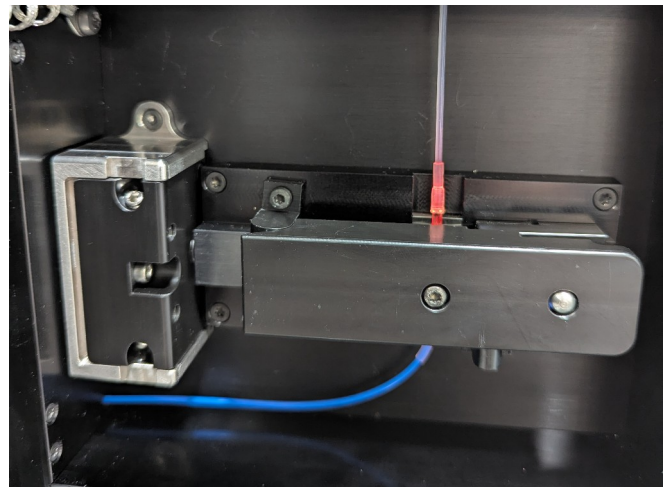

Figure 1. Ensure a Flow Cell is installed and the Reflector Arm is fully closed.
1. Ensure that a Flow Cell is properly installed on the instrument and that the Reflector Arm is fully closed (**Figure 1**). Vertical alignment at this point is not critical, it just needs to be close enough to see the upcoming bead pack.